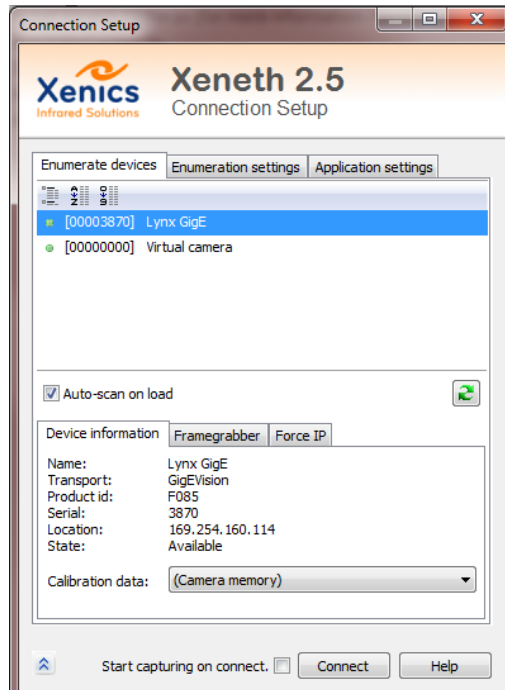

Figure 3-2 Connection setup
- Start Xeneth by clicking the Xeneth shortcut on the desktop to start up Xeneth (see Figure 3-1). The connection dialog will become visible (see Figure 3-2). When the camera is not shown, click the refresh button on the dialog. Select the camera, together with the calibration data suited for it. For more details, consult the Xeneth User Manual, section Connection setup - Settings.
- Select the camera in the Connection Setup window (see Figure 3-2).
- Select the calibration pack to be loaded (see Figure 3-2).